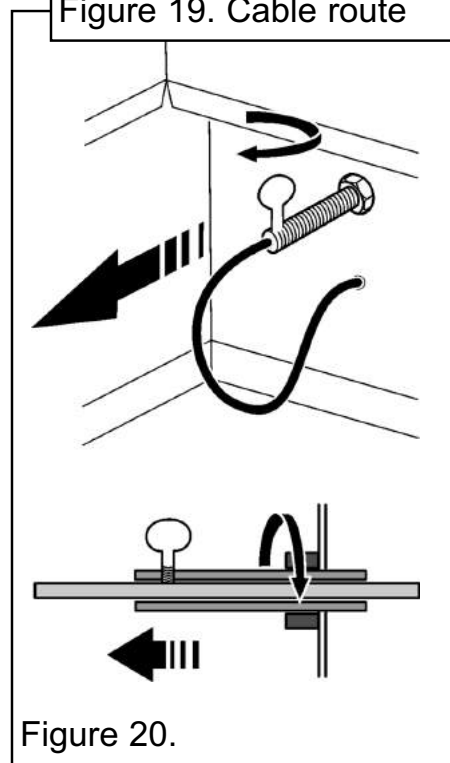

Figure 20.
cables in position. Apply tension to the cables by turning the hexagonal adjusters by hand (See figure 20).
**15.** Feed the free length of the cables through the small holes in the back of the convection box immediately below the cable adjusters so that they are available to allow easy removal and refitting of the appliance during subsequent service calls. **Do not cut off the free lengths of cable** (See figure 20).